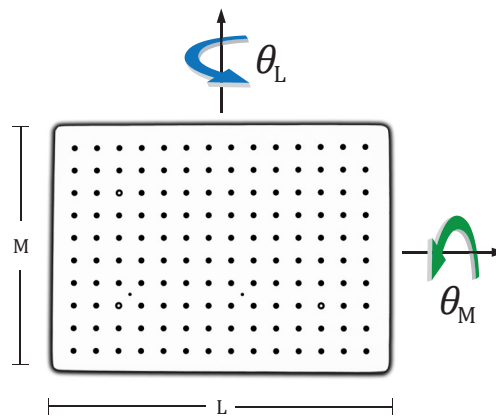

Figure 7: Schematic of calibration grid and rotations
- Use the as-supplied calibration target and perform a complete calibration of the VIC-EDU system. A typical target is shown in Figure 7. Include the following in your report.